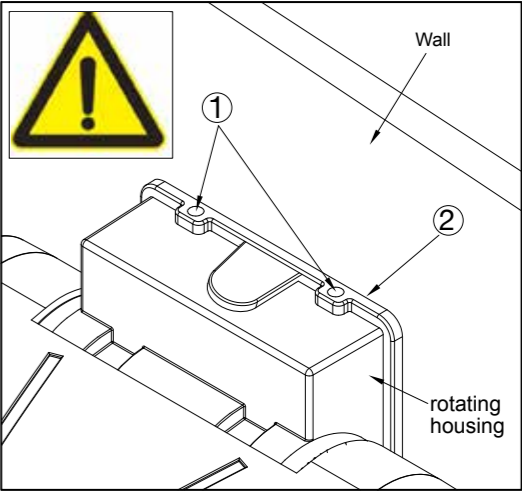

Figure 9
- 5. There are two through holes on the top of the rotating housing, and the gap between the rotating housing and the wall requires an electrician to apply waterproof glue for waterproofing. Figure 9.